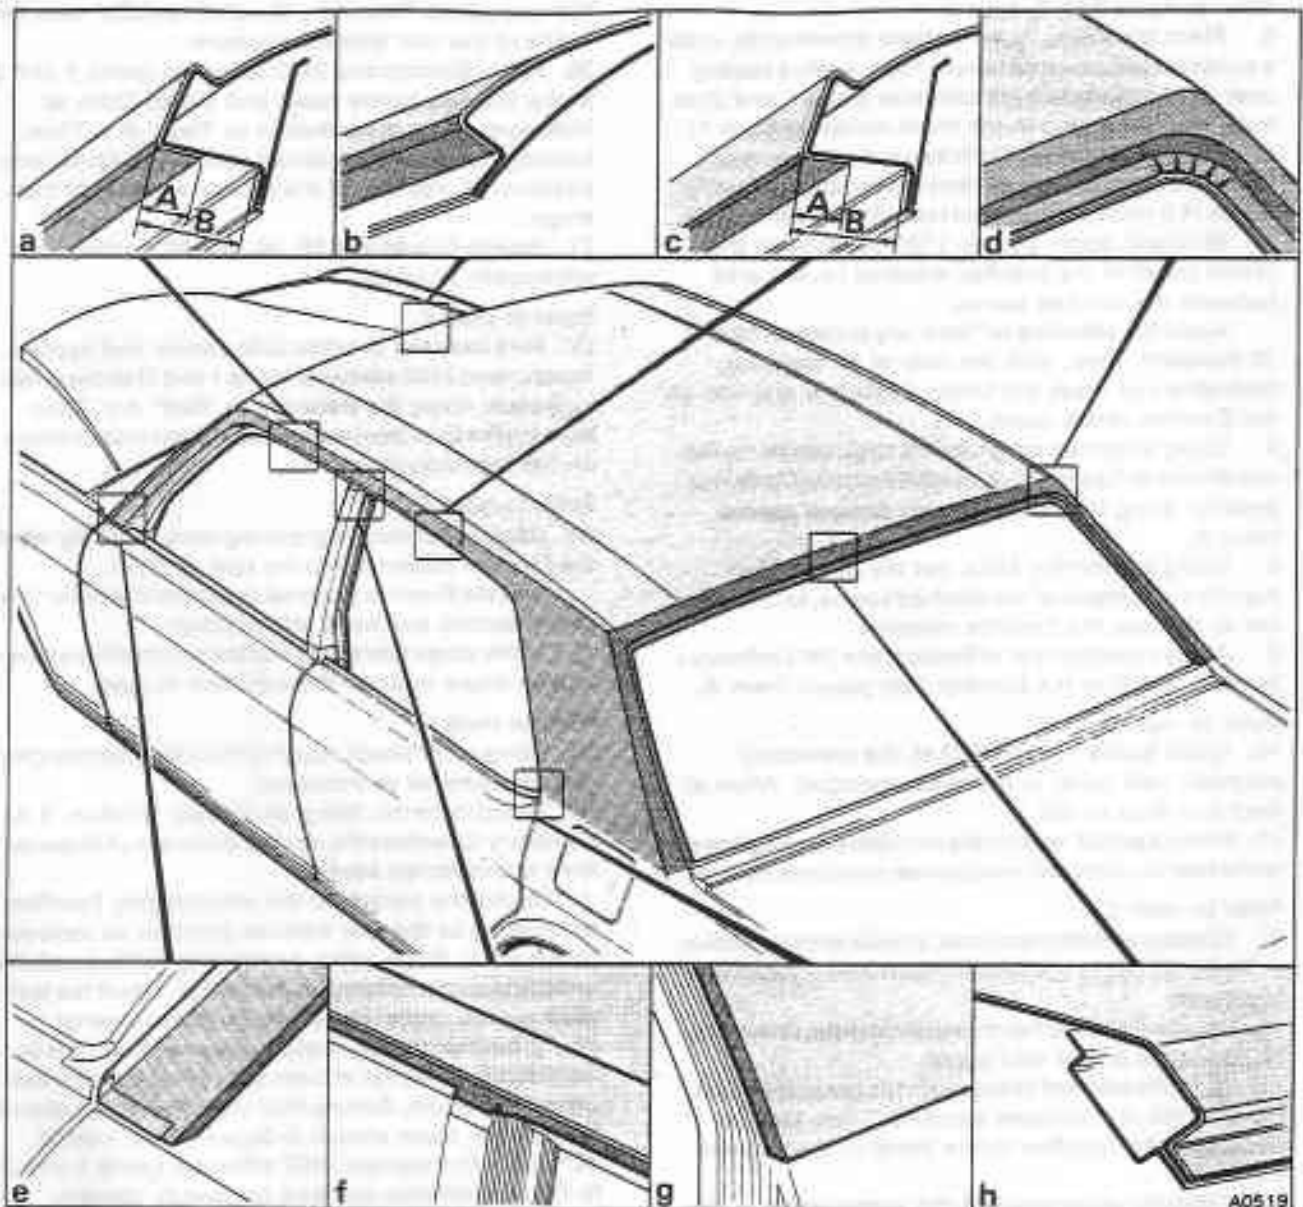

Fig. S11-4 Everflex roof trim
27. To facilitate fitting, make a series of small cuts in the Everflex material at both top corners of the rear window aperture. Ensure that the cuts do not extend further than those shown in figure S11-4, inset d.
29. Trim the excess Everflex material from around the rear window aperture as shown in figure S11-4, inset h.
30. Carefully trim the Everflex material to fit around the upper 'BC' post (see fig. S11-4, inset f).
36. Trim the excess Everflex material from around the windscreen aperture as shown in figure S11-4, inset b.
37. Trim the excess Everflex material from around the front and rear door apertures to the dimensions shown in figure S11-4, insets a and c.